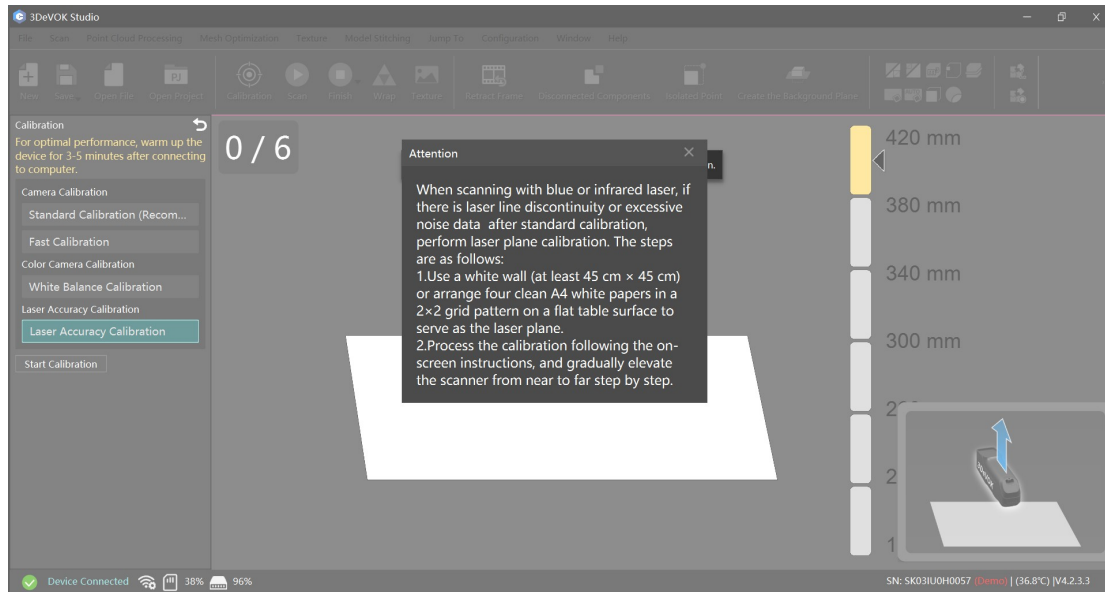

Figure 6-4 Laser Accuracy Calibration
2. Select the "Laser Accuracy Calibration" function on the left, and process the calibration following the on-screen instructions, as shown in Figure 6-4.